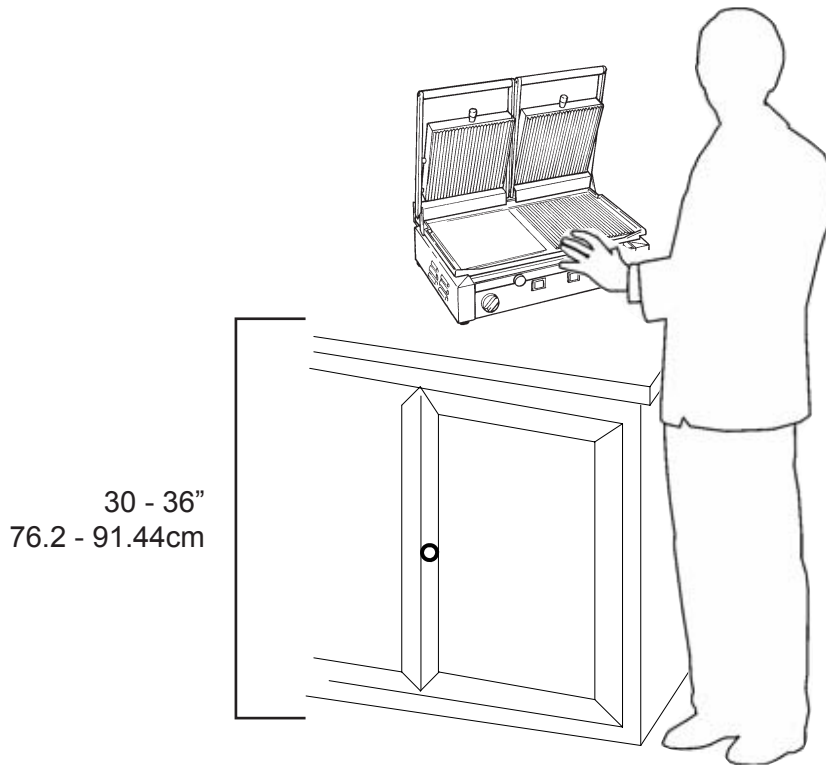

Fig. 4: Proper operation position.
1. Place yourself in a correct position (see Figure 4), avoiding any contact with the machine;